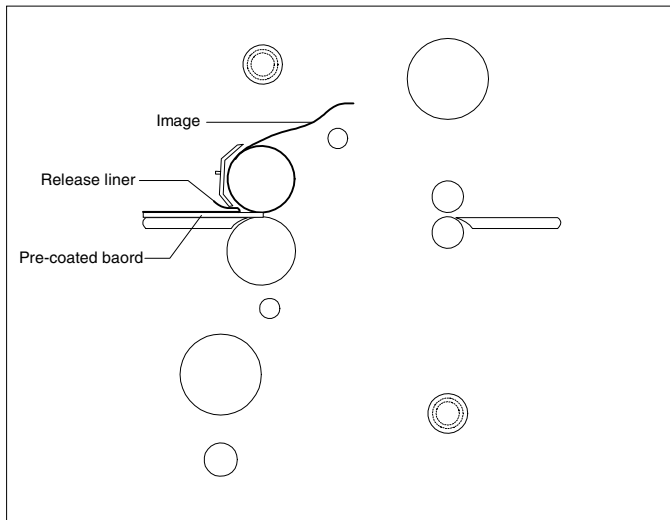

Fig. 35
TIPS FOR MOUNTING PRE-COATED BOARDS (Figure 35)
1. This application can also be performed from the front operating position. Reference Figure 35 for illustration.